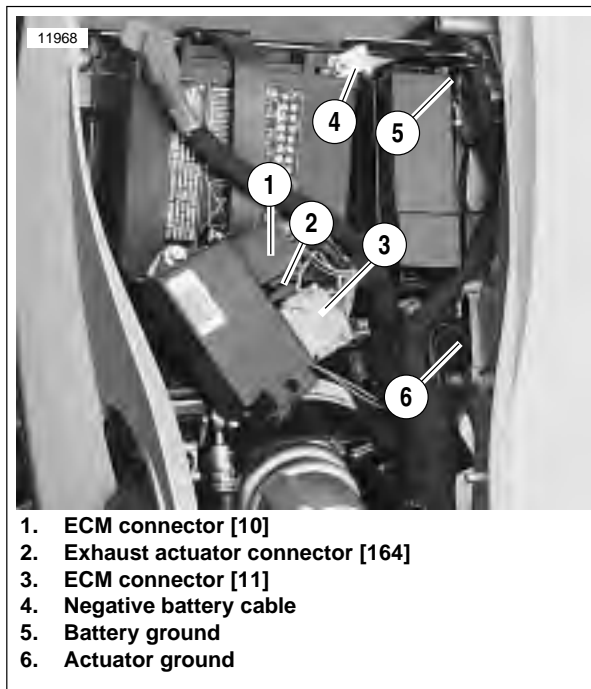

Figure 7-89. Harness and Cable Routing
3. See Figure 7-89. Remove negative battery cable (4) from battery. See 7.11 BATTERY.
5. Remove the exhaust actuator ground (5).
6. See Figure 7-89. Separate exhaust actuator harness connector [165] (2) at main harness.